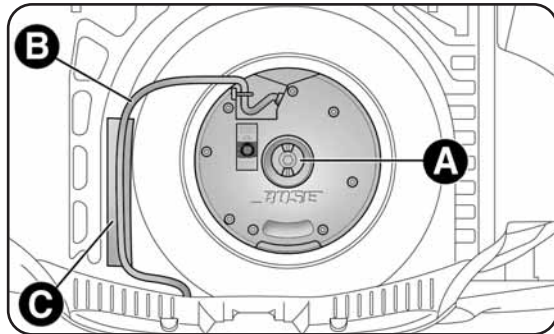

fig. 8
- undo locking device A-fig. 8 and lift up the Subwoofer. Then remove connection cable B from Velcro attachment C;
- rest cable B-fig. 8 into Velcro Attachment C to avoid pinching it. Then tighten locking device A-fig. 8. Replace the luggage compartment mat.
- using the wrench provided, fully tighten the bolts in the sequence shown in fig. 8;